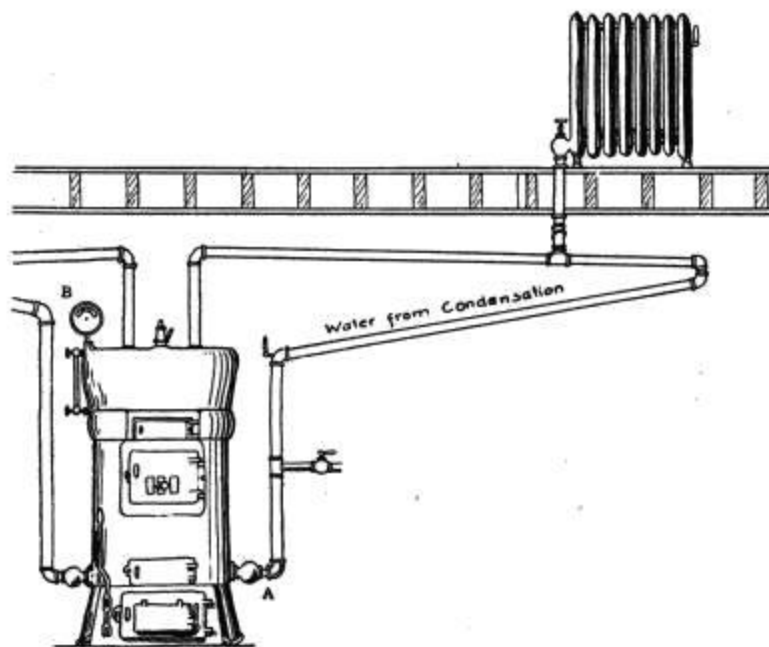
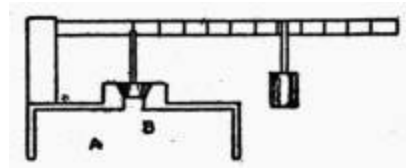

FIG. 35. Steam furnace.
FIG. 36. Safety valve.
70. Equipment for Steam Heat. A steam-heating system consists of a boiler, a fire pot, pipes from the boiler leading to the radiators, and radiators (Fig. 35). On some systems, return pipes are provided to carry condensed steam or water back to the lower part of the boiler. A safety valve (Fig. 36) is attached to steam-heating systems instead of an expansion tank. This keeps the pressure of the steam in the boiler from becoming too great, and thereby prevents an explosion. The pressure gage (*B*, Fig. 35) must be set, and, when set, should only be changed by a person understanding it. Build and manage the fire for a steam boiler the same as for any stove or furnace.
71. Steam Gages. Steam gages (*B*, Fig. 35) are devices for indicating the pressure of steam within an inclosure. They are a kind of spring balance. When the pressure of the steam increases, it pushes up on the spring, and this turns the hand of the indicator, which shows the number of pounds of pressure that the steam is exerting on the inside of the boiler or container.
72. Safety Valve. A safety valve (Fig. 36 and *A*, Fig. 38) consists of a small opening to a boiler over which is a weight. When steam is developed until it makes enough pressure on the inside of the valve to raise this weight, some of the steam escapes, thus lowering the pressure on the inside